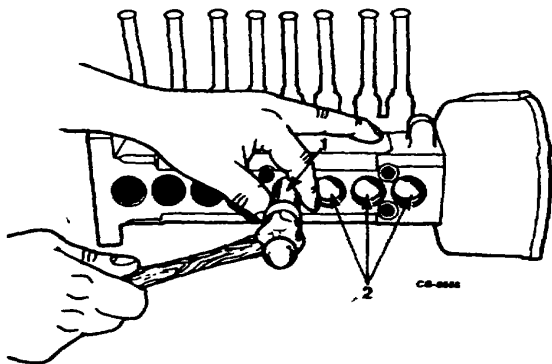

Figure 23. Removing Base Plugs
11. Using a 5/8" or 11/16" socket or similar size wooden plug, drive the eight base plugs inside pump housing and remove (Figure 23).